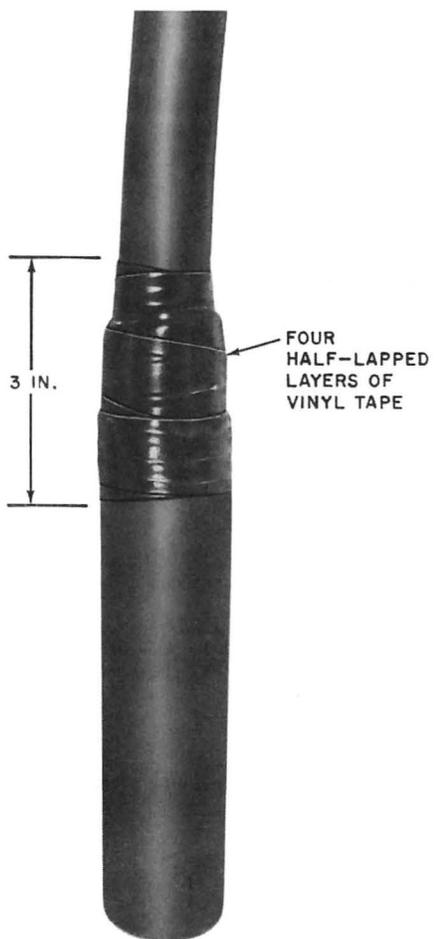

Fig. 12—Completed Installation
- (i) A completed installation is shown in Fig. 12.